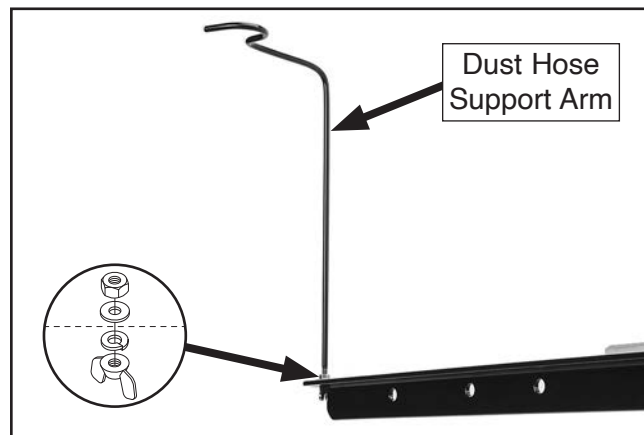

Figure 22. Location of dust hose support arm fasteners.
8. Attach dust hose support arm to long rear rail with (1) M6-1 hex nut, 6mm flat washer, 6mm lock washer, and M6-1 wing nut from G0899 inventory. Orient support arm so open end of hook faces outward, as shown in **Figure 22**.